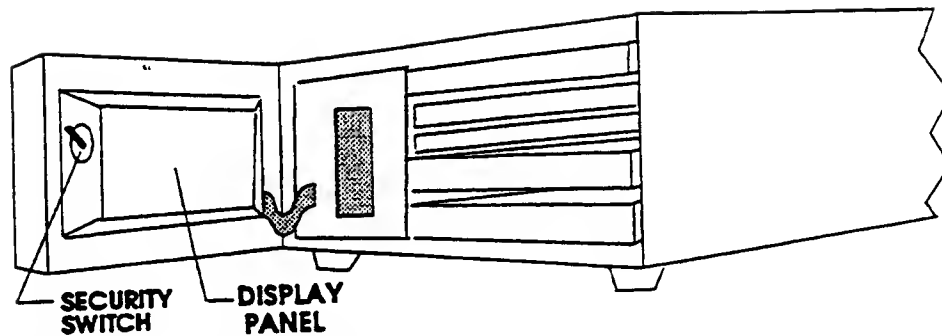

Figure 4.7 The DP95, with Front Panel Open and Cutoff Switch Highlighted.
- Level 2.** This level uses a cutoff switch located behind the front of the DP95 to disable configuration mode using the configuration panel (see Figure 4.7). To toggle this switch, it is necessary to remove the two Phillips head screws from the front of the DP95 case and swing the front panel open on the hinges on the left side of the case. The switch disables the sensor in the DP95 used to detect the presence of a magnetic configuration panel.